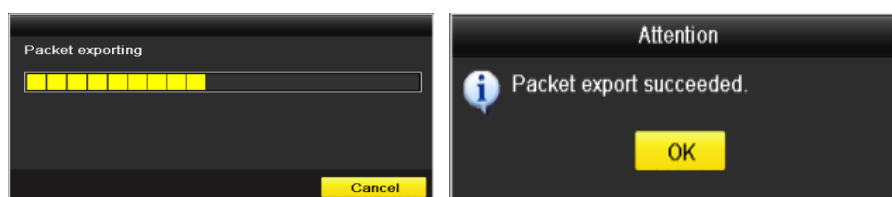

Figure 9-23 Packet Export Attention
Step 5 After the exporting is complete, click **OK** to finish the packet export, as shown in Figure 9-23.